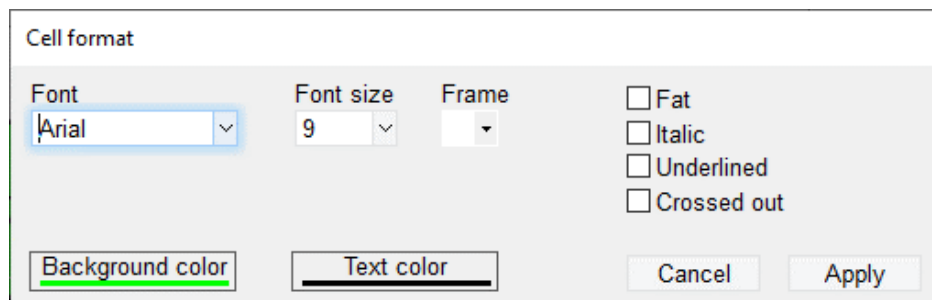

Figure 26: Dialog for formatting a cell
FORMAT CELL(S)	Selected cells are displayed via a dialog (Figure 26).
Note on formatting: In SOFTEMA, the cell contents are displayed according to the formatting of the Excel file. Using the above menu command, cells can be formatted in a dialog (Figure 26). This formatting is then saved in the Excel file and is therefore also visible when loading the project file in Excel.